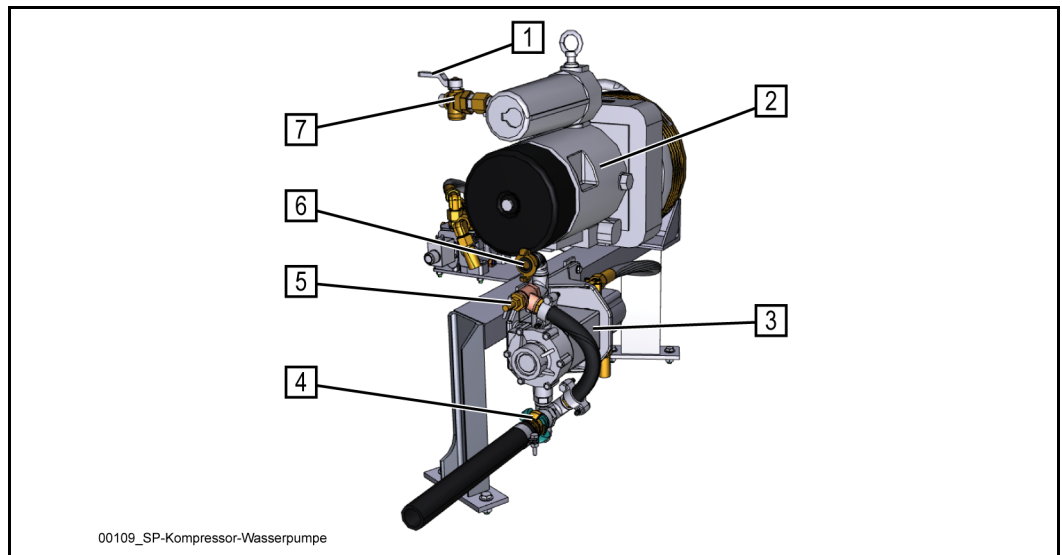

Fig. 89 Compressor - Water pump
The hydraulically powered water pump is self-priming (3) (**Fig. 89**). We recommend setting up a water case with clean water next to the pump.
Connect suitable hoses to the suction socket (4) and delivery connection (7) (**Fig. 89**).
Caption (Fig. 89 Compressor - Water pump)
The pressure relief valve (5) (**Fig. 89**) is set at the factory and may only be adjusted by SCHWING's customer service.